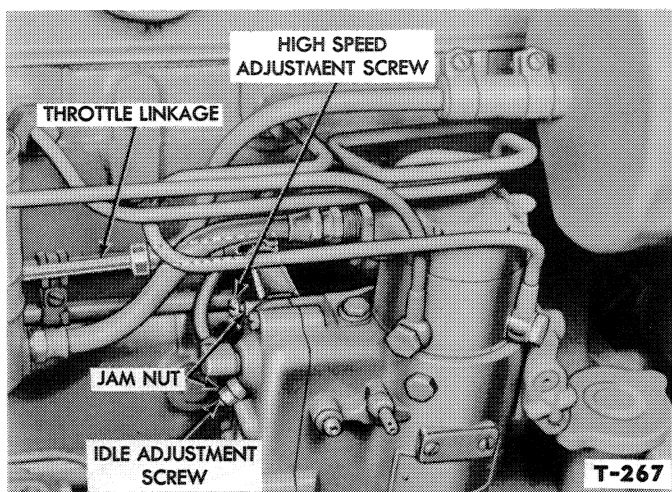

Figure 3—Idle and High Speed Adjustments
The fuel injection pump is provided with engine idle and high speed adjusting screws, shown in Figure 3. In addition, the throttle linkage may be adjusted to provide for the correct amount of dead travel for the hand throttle lever. Each of these adjustments are important to the operating efficiency of the Ford Diesel Tractor and should be checked whenever the tractor is serviced.
- a. Back off the jam nut on the idle speed adjustment screw, Figure 3, and use an Allen wrench to turn the screw.
- a. Loosen the jam nut on the pump operating lever high speed adjustment screw, Figure 3.